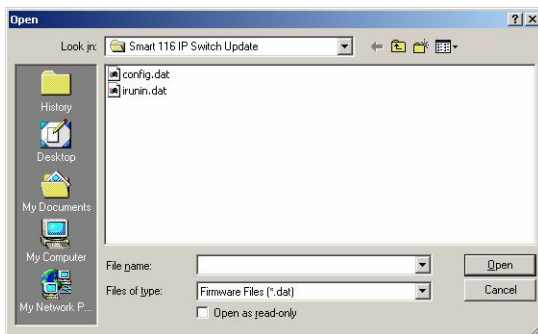

Figure 48 Open box
2. From the **File** menu, choose **Open**. The **Open** box appears. See Figure 48.